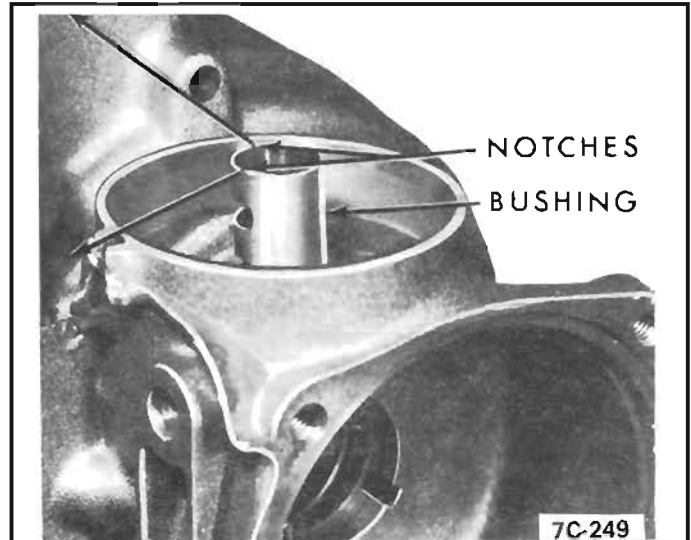

Figure 120 Position Notches
b. Position the notches so that one notch is toward the front of the case and the other is toward the bottom of the case. *See Figure 120.*